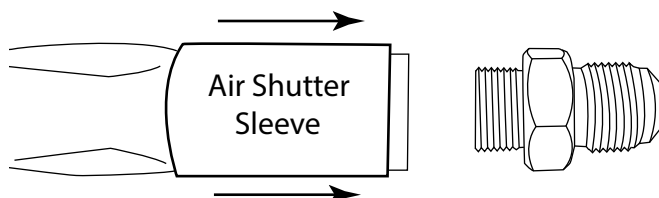

Fig. 3. Natural gas setting; air shutter sleeved installed.
Step 6: After the main burner orifice and brass fitting is removed then slide the air shutter sleeve off the burner tube and expose the hole for the LP gas (Figs. 3 & 4).